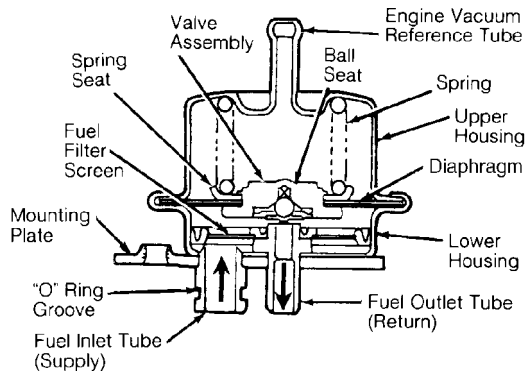

Fig. 46: Identifying Fuel Pressure Regulator Components (Navajo)
1) Ensure ignition is off. Connect fuel pressure gauge to Schrader valve on fuel rail. Ensure manifold vacuum supply tube is connected to fuel pressure regulator. Start engine, and run it for 10 seconds. Stop engine, and wait 10 seconds. Start engine, and operate it for 10 seconds. Stop engine, and remove pressure regulator vacuum hose. See Fig. 46. Check vacuum port for fuel.
2) Connect vacuum pump to fuel return tube, and apply 20 in. Hg vacuum. See Fig. 46. If maximum vacuum loss exceeds 10 in. Hg in 10 seconds, replace fuel pressure regulator. If maximum vacuum loss does not exceed 10 in. Hg in 10 seconds, fuel pressure regulator is functioning properly.